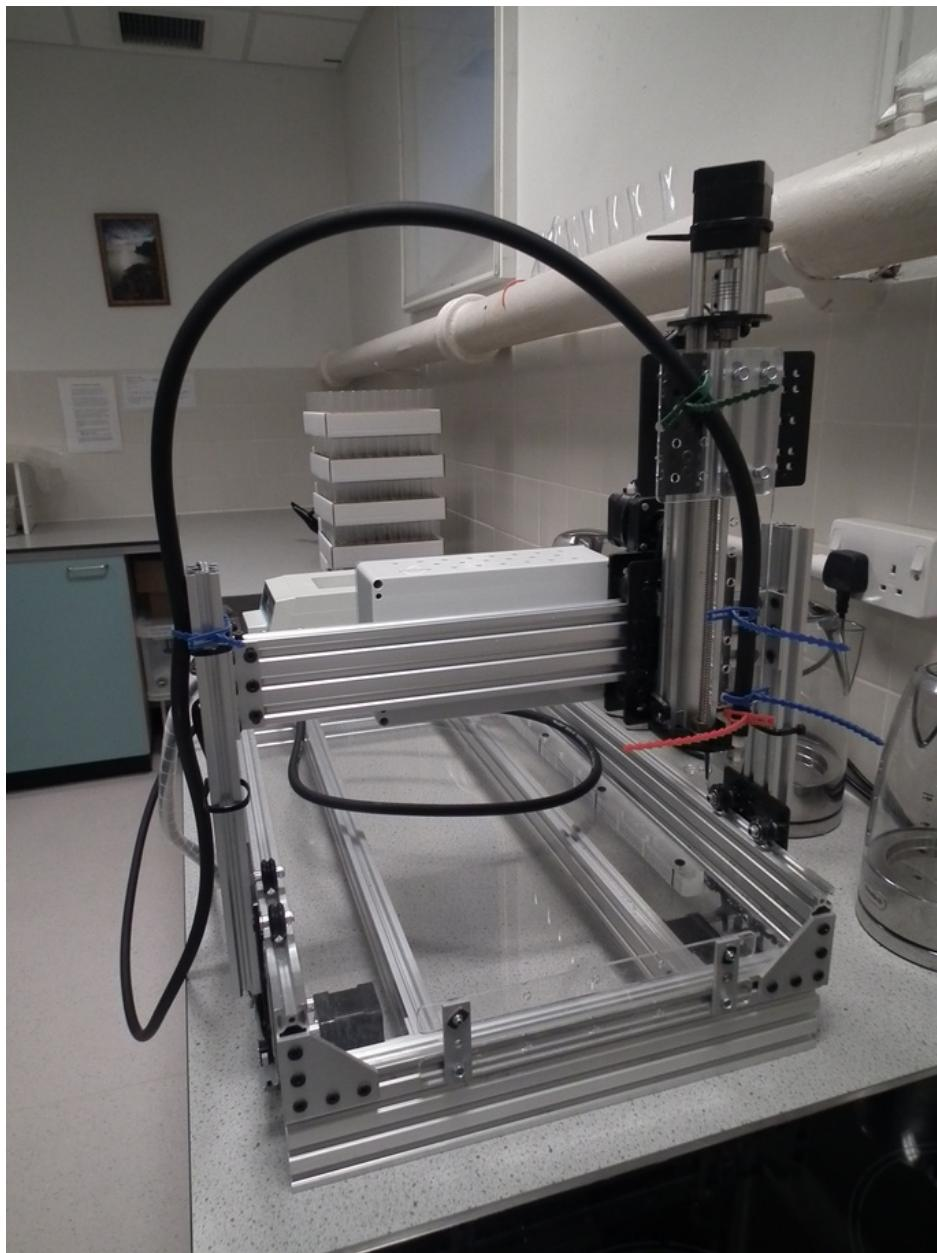

Figure 4.2: Attachment of Norprene tubing to the right-hand side vertical post.
2. Attach the Masterflex Norprene tubing to the right-hand side vertical post using a releasable cable tie. Ensure there is a large loop in the tubing between this attachment point and the nozzle so that the x-axis actuator can move freely (figure 4.2)